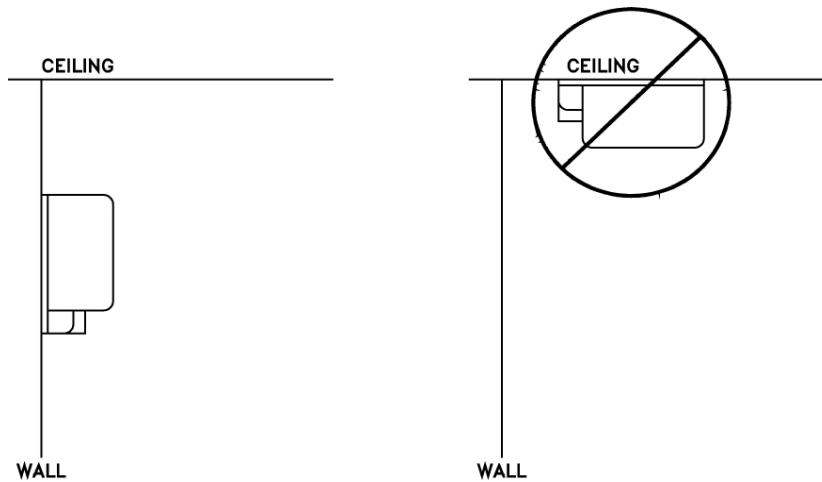

Figure 5: Pressure Transducer Mounting
1. Install pressure transducer in desired location (typically above ceiling). The transducer must be mounted on a wall in the correct position per Figure 5 (screws not provided). Do *not* mount pressure transducer to duct or other vibrating surface.